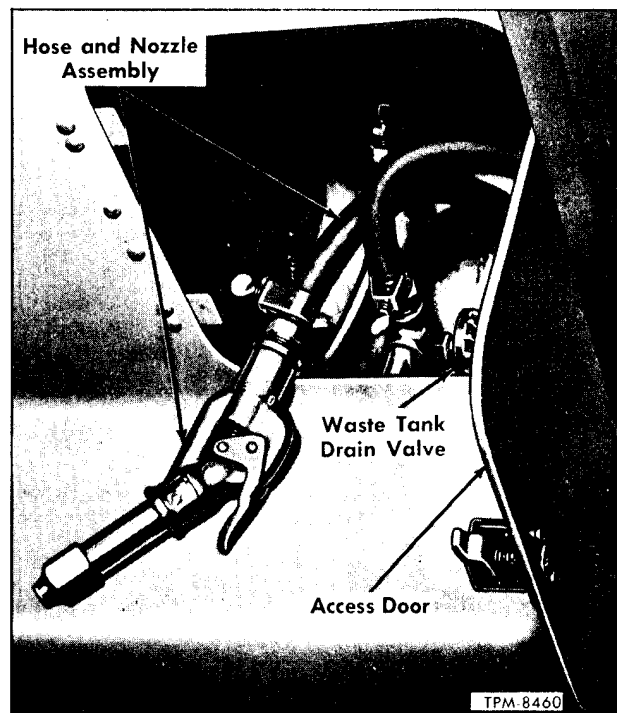

Figure 67—Location of Flushing Hose and Basin Waste Tank Drain Plug
2. Open water pressure into fitting, then within the lavatory compartment, open small door on riser panel at right of basin (fig. 67) for access to flexible flushing hose.
1. Using hose (fig. 67) located in compartment under wash basin, fill chemical tank through lavatory stool with approximately 6-1/2 gallons of water. Tank holds approximately 12 gallons; however, it should only be partially filled as recommended.
1. Through access door in paneling below wash basin (fig. 67), open drain valve which will allow waste water in tank to drain throughline (12, fig. 53) into chemical tank. Remove basin drain plug when draining tank.